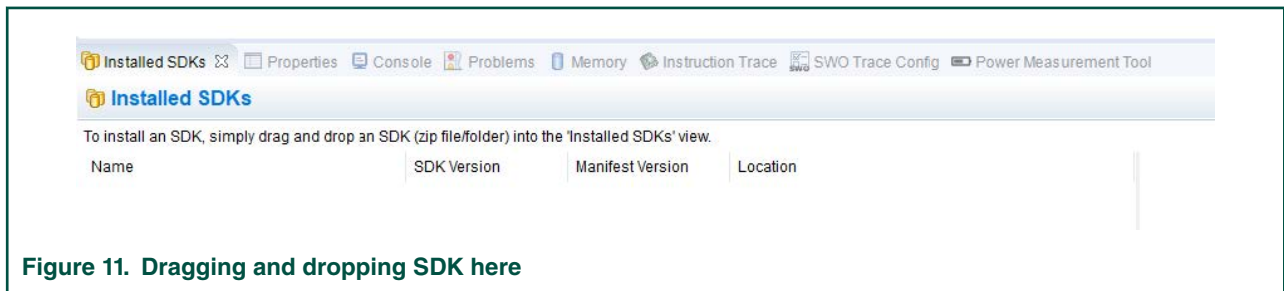

Figure 11. Dragging and dropping SDK here
1. Open MCUXpresso IDE. Drag and drop your FRDM-K64 SDK folder inside the installed SDK area, as shown in Figure 11.